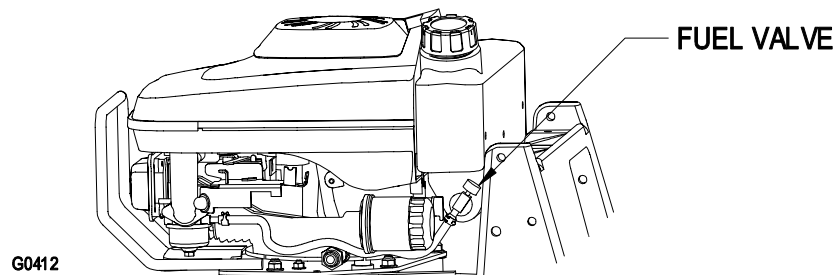

FIGURE 9
2. Open the fuel valve. The fuel valve is located at the lower left edge of the fuel tank. Rotate the valve counter-clockwise to turn on fuel. (Fig. 9)